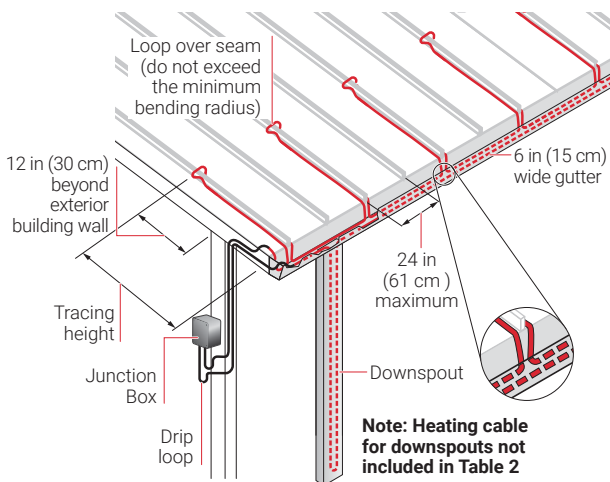

Figure 13: Layout for standing seam roof
For sloped standing seam metal roofs, ice dams may form at the roof edge. To maintain a continuous path for melt water runoff, route the heating cable along the seams as shown in Figure 13 below. Additional heating cable may be needed for downspouts and valleys.
3. Run heating cable up the seam until it is at least 12 in (30 cm) past the exterior building wall and into the heated area below the roof taking care not to damage the heating cable. Secure cable in place using one-hole clips or other similar attachment clip. Table 2 shows the heating cable required per foot of roof edge for several common “Tracing heights” and includes two runs along the gutter (see details in Figure 13).
4. Run the heating cable up one side of the seam, loop it over to the other side, taking care not to exceed the minimum bending radius, and return it to the bottom of the gutter. Continue along the bottom of the gutter to the third seam and repeat the process as shown in Figure 13. If the seams are more than 24" apart, trace every seam.
5. Loop heating cable into each downspout as shown. The cable should extend all of the way down to the bottom of the downspouts. Install a single run of cable back along the gutter to the junction box as shown in Figure 13. It is not necessary to attach the heating cable to the gutters. If attachment is required, use 2 in (5 cm) wide metal foil adhesive tape to secure the cable to the bottom of the gutter.
** includes two runs of cable in gutter as shown in Figure 13